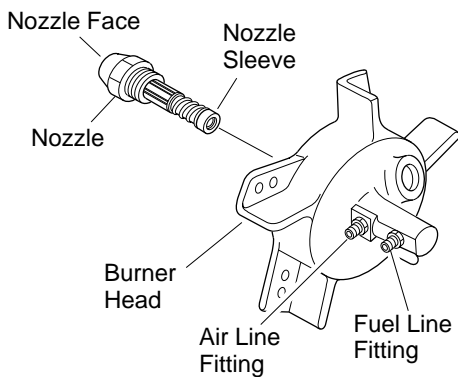

Figure 26 - Removing Nozzle, 110/150,000 BTU/Hr Models
8. Carefully remove nozzle from burner head using 5/8" socket wrench (see Figure 26, page 12).